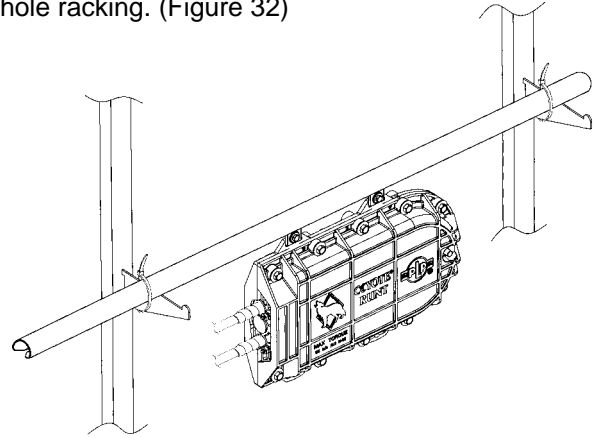

FIGURE 32 - MANHOLE SUPPORT BRACKET
16.01 The Manhole Support Bracket Kit (cat. no. 8003470) can be used to secure the COYOTE RUNT Closure to manhole racking or hand hole racking. (Figure 32)